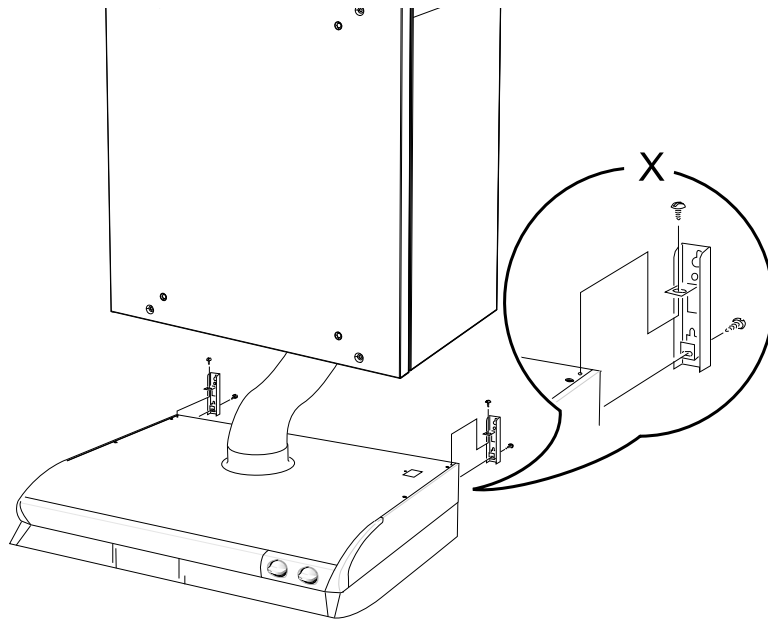

Fig. 7 Installation of the cooker hood
1. Connect the cooker hood to the unit via a flexible duct. Use mounting mechanism which is delivered together with the cooker hood (figure 7, pos. X).